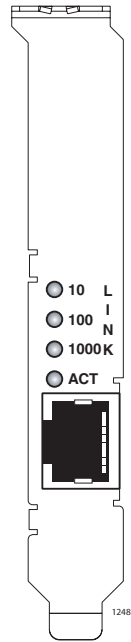

Figure 3. AT-2971T Gigabit Ethernet Adapter
**AT-2971T** The AT-2971T Gigabit Ethernet adapter has one copper port and four LEDs, as shown in Figure 3 and described in Table 3.